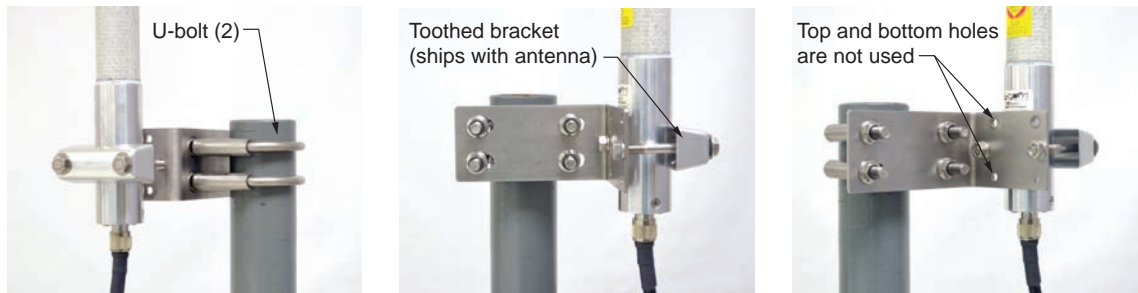

Figure 2.10 - Optional 2-in. pipe mount bracket
To install the antenna, reference Figure 2.10 while following the instructions below:
2. Position the L-shaped bracket against the pipe so that the pipe is on the outside of the “L” and secure it to the pipe with the two U-bolts and four U-bolt nuts (Figure 2.10, left). The U-bolts will pass through the widest panel of the “L” bracket.
5. Place a flat washer over each of the 5/16-in. bolts and insert the bolts through the holes in the toothed bracket and through the center holes in the L-bracket panel (Figure 2.10, center and right).
8. Holding the antenna in place, tighten the two 5/16-in. nuts on the inside of the L-bracket to secure the antenna (Figure 2.10, right).